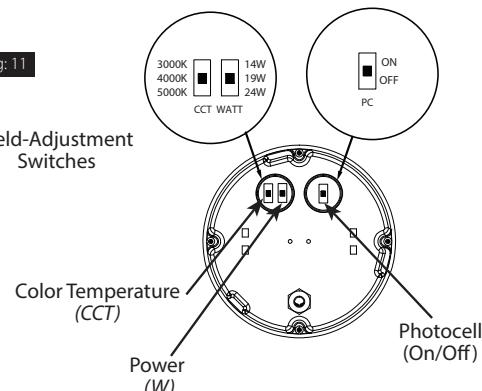

Fig: 12
4. Select **Power (W)**, **Color Temperature (CCT)** and/or **Photocell** ON/OFF option by sliding the respective switch to the desired value. See Fig. 11 for **Round Bollard**, see Fig 12 for **Square Bollard**. Replace **Switch covers**.